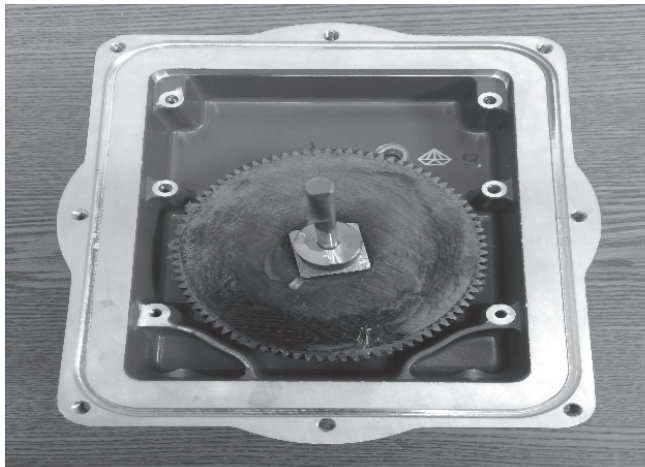

Figure 13.
- 4.15 For ADC models only the main gear on the center output/cam shaft will remain in the base casting, see Figure 13. (You may need to pull the output/cam shaft up as well depending on the gearing in the actuator, in order to get the motor support plate assembly "free")